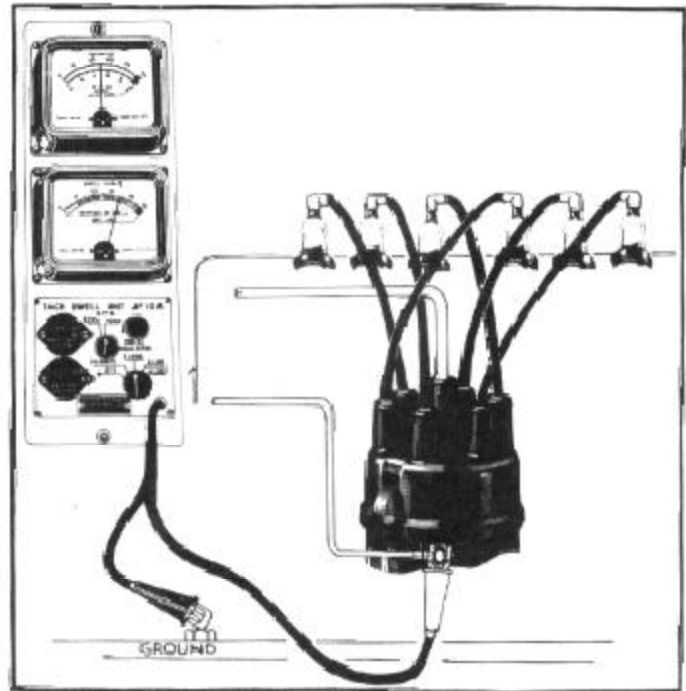

FIGURE 15
1. With Sun Unit connected as for point resistance, Figure 15, replace distributor cap and spark plug wires, and replace distributor primary wire.